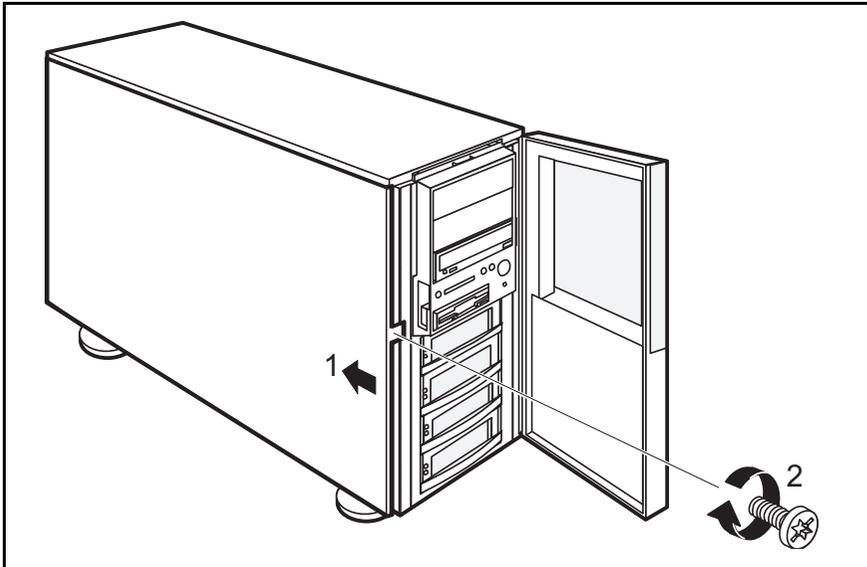

Figure 42: Attaching the left side cover
- ▶ Tightly fasten the screw marked (2) in figure 42.